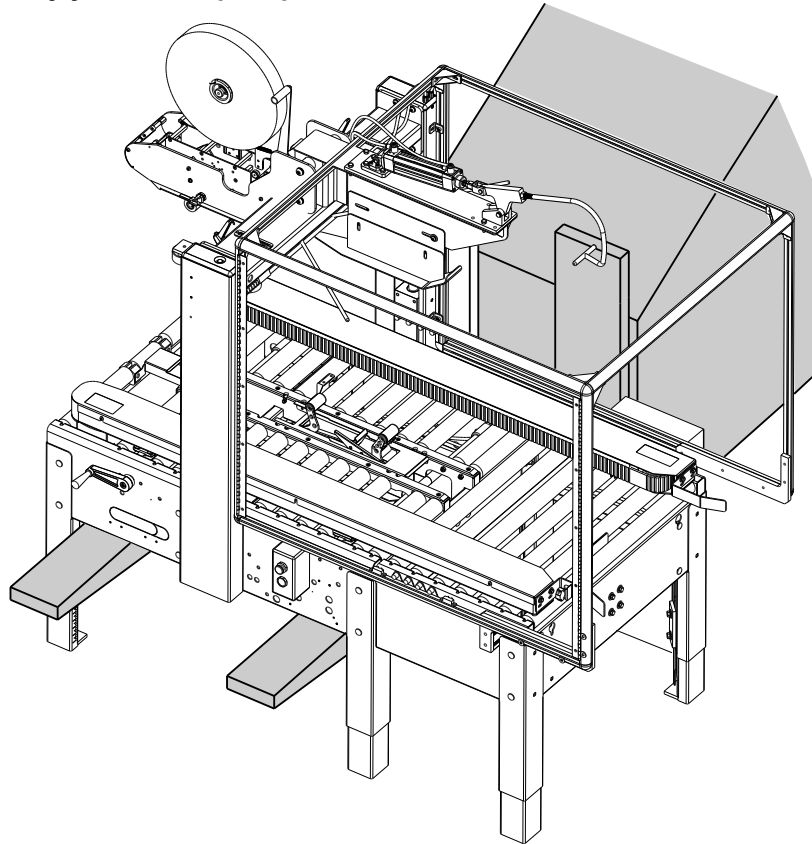

Figure 7 Use fork lift to handle machine
4. Lift the machine off the pallet and install it on your packaging line. Use a fork lift to lift and move the machine as shown in figure 7. **Be careful not to damage the control box.**